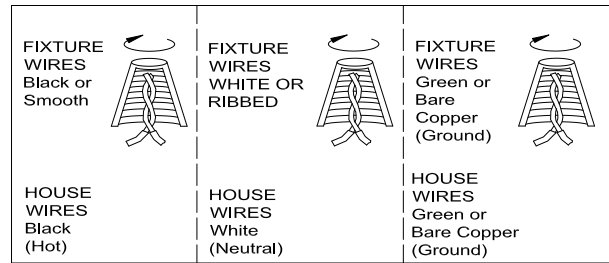

Fig 3
Replacing LED module (Fig. 3)
The LED module can be replaced by a qualified electrician without cutting of wire and without damage to any decorative element to which the fixture is attached. See installation steps for more details (Fig. 3).
- d. To disconnect LED module: Loosen hex nuts (F), rubber washers (H) and carefully remove LED module (k).
- e. Reverse steps a - e for installing new LED module (Fig.3).